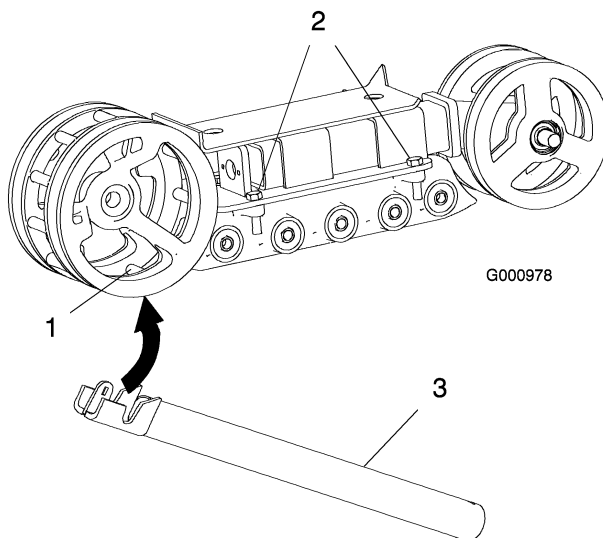
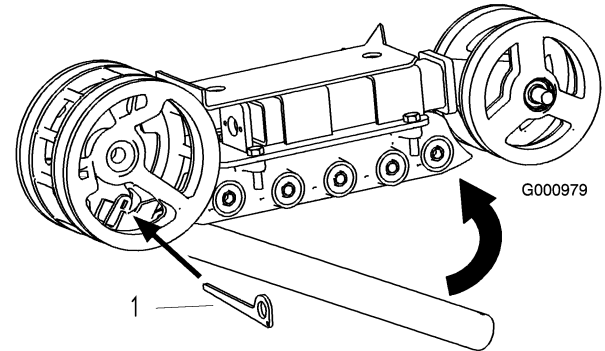
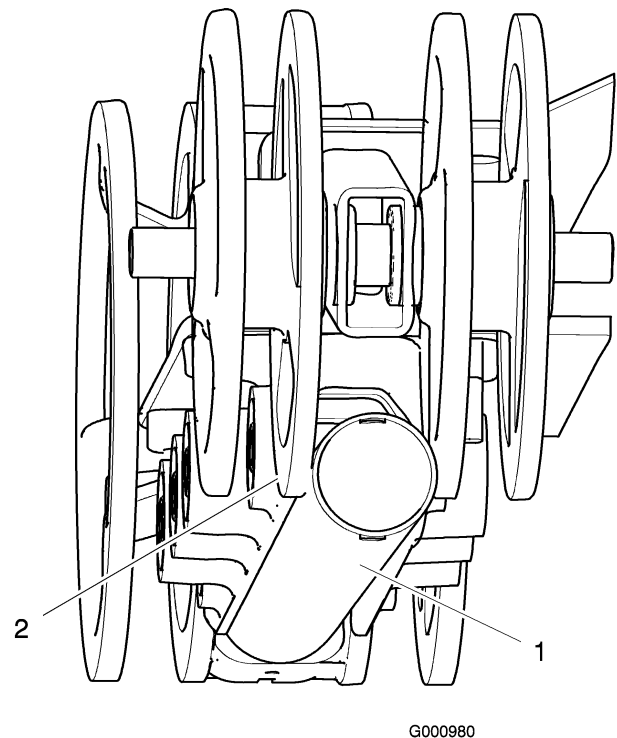

Figure 1
Figure 2
Figure 3
2. Loosen the 4 track guide bolts (Figure 1).
3. Place the slot of the alignment tool around a drive sprocket spacer on the bottom of the sprocket (Figure 1) and secure it with the pin (Figure 2).
4. Rotate the alignment tool up into the channel in the track guide and between the tension wheels (Figure 2 and Figure 3), moving the track guide as needed to allow it to fit into the channel.